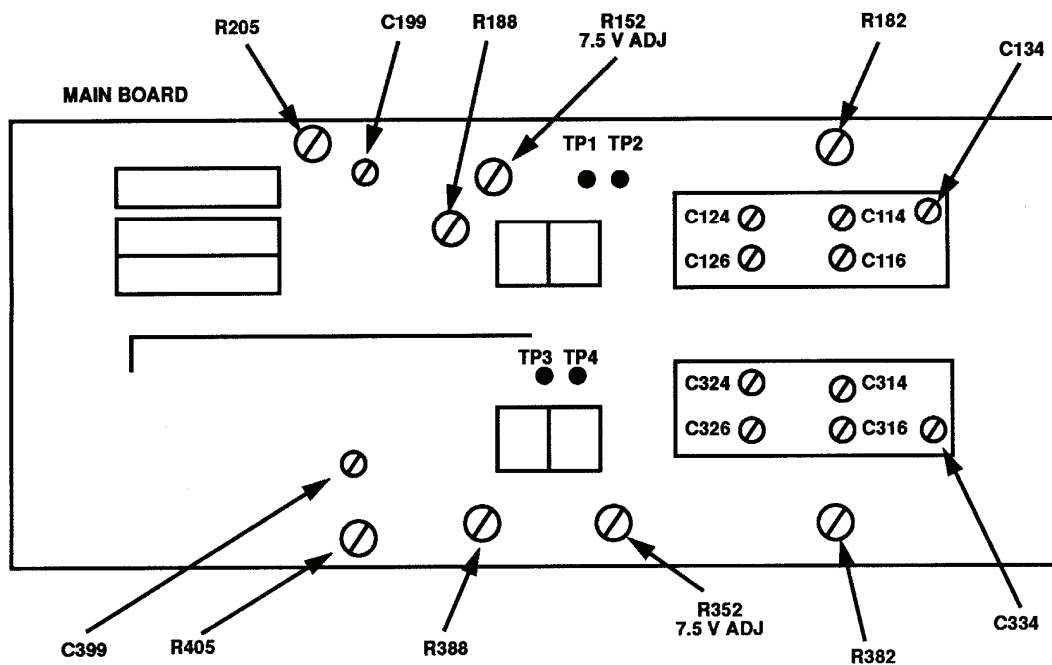

Figure 4. Test instrument - left-side view.
(4) Set oscilloscope calibrator **EDGE** output for 100 mV, 1 kHz and adjust **EDIT FIELD** knob for 5 divisions of vertical deflection on oscilloscope.
(5) If square wave level, roll off, or overshoot exceeds ±4%, adjust C134 (fig. 4) for flat top on waveform.
- (6) Set TI **CH 1 VOLTS/DIV** switch to **50 m**.
- (7) Set oscilloscope calibrator **EDGE** output for 250 mV, 1 kHz and adjust **EDIT FIELD** knob for 5 divisions of vertical deflection on oscilloscope.
- (8) If square wave level, roll off, or overshoot exceeds $\pm 4\%$, adjust C124 (fig. 4) for flat top and C126 (fig. 4) for square corner on waveform.
- (9) Set TI **CH 1 VOLTS/DIV** switch to **.5**.
- (10) Set oscilloscope calibrator **EDGE** output for 2.5 V, 1 kHz and adjust **EDIT FIELD** knob for 5 divisions of vertical deflection on oscilloscope.
- (11) If square wave level, roll off, or overshoot exceeds $\pm 4\%$, adjust C114 (fig. 4) for flat top and C116 (fig. 4) for square corner on waveform.
- (12) Release **CH 2 GND** pushbutton to out position. Remove 24 pF normalizer from equipment setup and connect oscilloscope calibrator **SOURCH/MEASURE CHAN 1** to TI **CH 1**.
- (13) Set TI **CH 1 VOLTS/DIV** switch to **2 m** and oscilloscope calibrator **VOLTAGE** output for 10 mV, 1 kHz. If necessary, adjust oscilloscope calibrator **EDIT FIELD** knob for a 0.0% **err** display indication.
- (14) Adjust R205 (fig. 4) for 5 divisions of vertical deflection on oscilloscope (R).
- (15) Set TI **CH 1 VOLTS/DIV** switch to **10 m** and oscilloscope calibrator **VOLTAGE** output for 50 mV, 1 kHz.
- (16) Adjust R188 (fig. 4) for 5 divisions of vertical deflection on oscilloscope (R).
- (17) Connect oscilloscope calibrator **SOURCH/MEASURE CHAN 1** to TI **CH 2** using 24 pF normalizer.
- (18) Set TI **CH 2 VOLTS/DIV** switch to **20 m** and press **CH 1 GND** pushbutton to in position.
- (19) Set delaying time base **MAIN SEC/DIV** switch to **1 m**.
- (20) Set oscilloscope calibrator **EDGE** output for 100 mV, 1 kHz and adjust **EDIT FIELD** knob for 5 divisions of vertical deflection on oscilloscope.
- (21) If square wave level, roll off, or overshoot exceeds $\pm 4\%$, adjust C334 (fig. 4) for flat top on waveform.
- (22) Set TI **CH 2 VOLTS/DIV** switch to **50 m**.
- (23) Set oscilloscope calibrator **EDGE** output for 250 mV, 1 kHz and adjust **EDIT FIELD** knob for 5 divisions of vertical deflection on oscilloscope.
- (24) If square wave level, roll off, or overshoot exceeds $\pm 4\%$, adjust C324 (fig. 4) for flat top and C326 (fig. 4) for square corner on waveform.
- (25) Set TI **CH 2 VOLTS/DIV** switch to **.5**.
(26) Set oscilloscope calibrator **EDGE** output for 2.5 V, 1 kHz and adjust **EDIT FIELD** knob for 5 divisions of vertical deflection on oscilloscope.
(27) If square wave level, roll off, or overshoot exceeds $\pm 4\%$, adjust C314 (fig. 4) for flat top and C316 (fig. 4) for square corner on waveform.
(28) Release **CH 1 GND** pushbutton to out position. Remove 24 pF normalizer from equipment setup and connect oscilloscope calibrator **SOURCH/MEASURE CHAN 1** to **TI CH 2**.
(29) Set **TI CH 2 VOLTS/DIV** switch to **2 m** and oscilloscope calibrator **VOLTAGE** output for 10 mV, 1 kHz. If necessary, adjust oscilloscope calibrator **EDIT FIELD** knob for a 0.0% **err** display indication.
(30) Adjust R405 (fig. 4) for 5 divisions of vertical deflection on oscilloscope (R).
(31) Set **TI CH 2 VOLTS/DIV** switch to **10 m** and oscilloscope calibrator **VOLTAGE** output for 50 mV, 1 kHz.
(32) Adjust R388 (fig. 4) for 5 divisions of vertical deflection on oscilloscope (R).
- (1) Position controls as listed in (a) through (c) below: